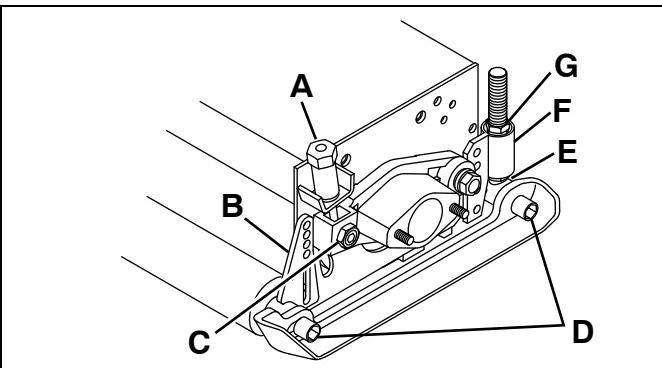

Figure 3N
6. Loosen skid mounting hardware (**D - Figure 3N**) then adjust the cutting height. (A special tool is provided with the mowers. A 5/8 in. socket and ratchet are required).